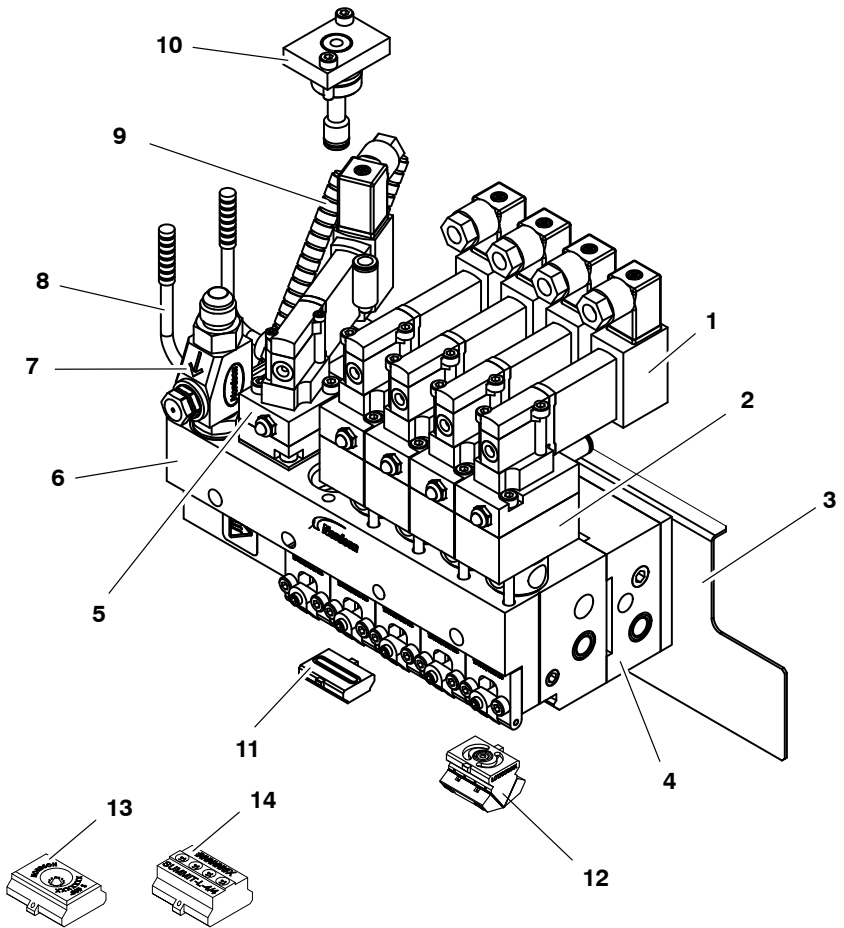

Figure 2: PatternJet Plus applicator and associated nozzles (sold separately)
The PatternJet Plus applicator accurately applies adhesives on high-speed labeling applications. Refer to *PatternJet Plus Applicator Part Numbers* under *Parts* for an illustration of all available applicators. Available nozzles include Universal Controlled Fiberization (CF), Summit, intermittent Signature. Figure 2 shows the key components of the PatternJet Plus applicator parts family.